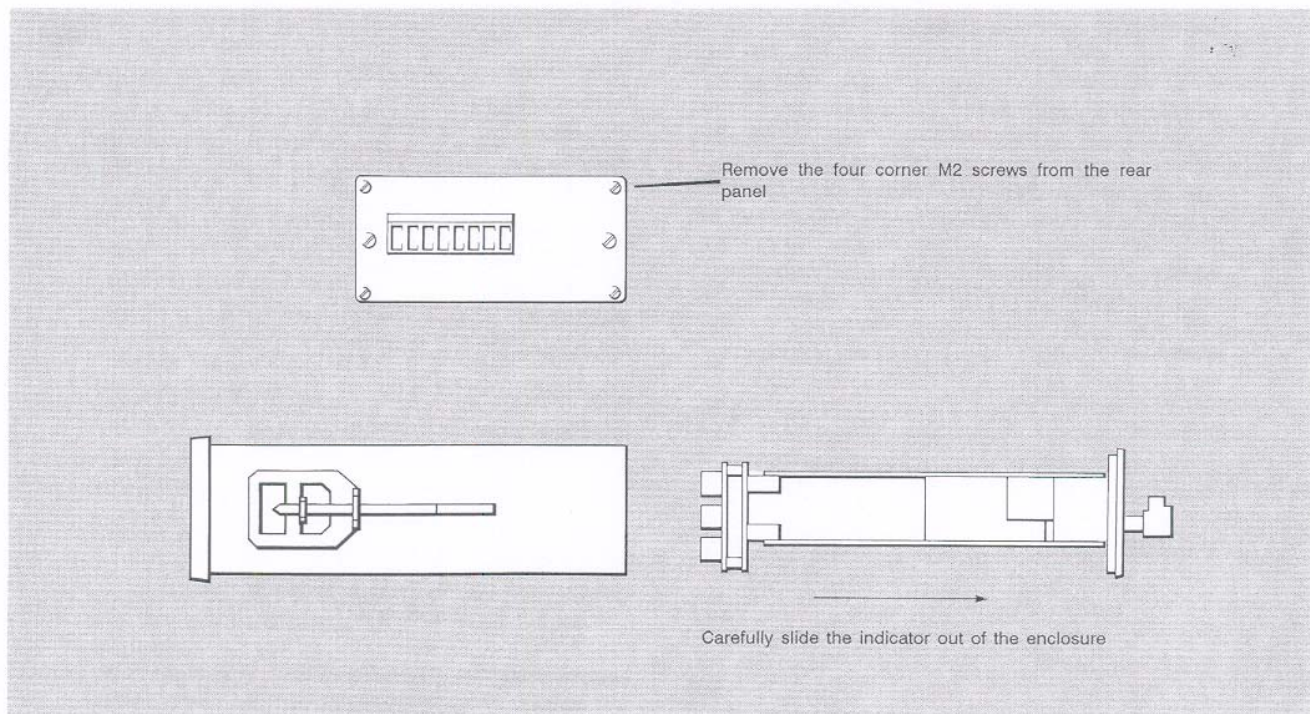

Fig 8 Removal of indicator from enclosure
- i Remove the indicator from its case - see Fig 8